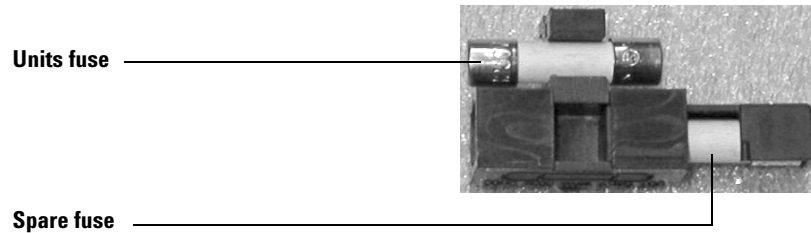

Figure 9 Inline fuse and spare
- 4 Inspect the fuse in service. See Figure 9. Replace if blown with a 6.3 A, 250 V type T fuse, high-breaking capacity type (ceramic body).